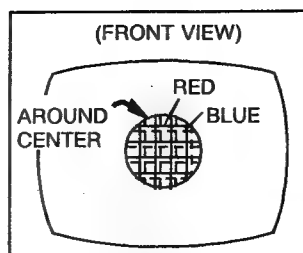

Fig.B-5
3. Rotate the front pair of tabs (four pole convergence magnet) as a unit to minimize the separation of the red and blue lines around the center of the screen. To adjust the convergence of red and blue, vary the angle between the tabs (Fig. B-5)